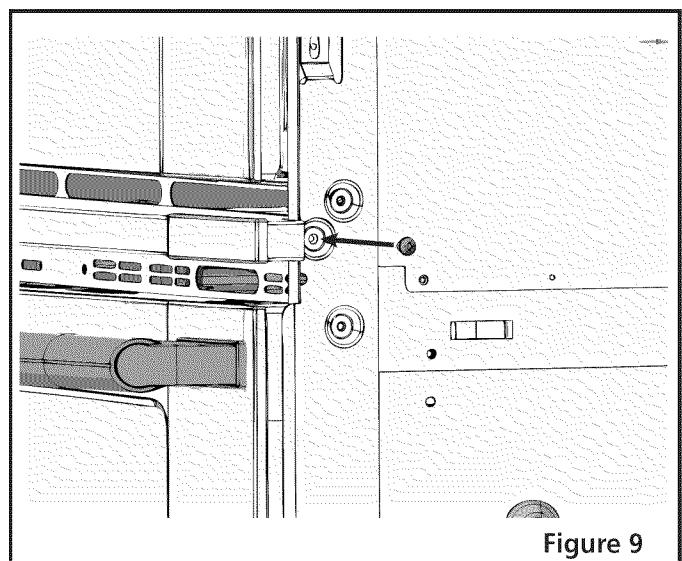

Figure 9
- 8** Install now the center trim using the screws supplied with the unit, on both sides (Figure 9).